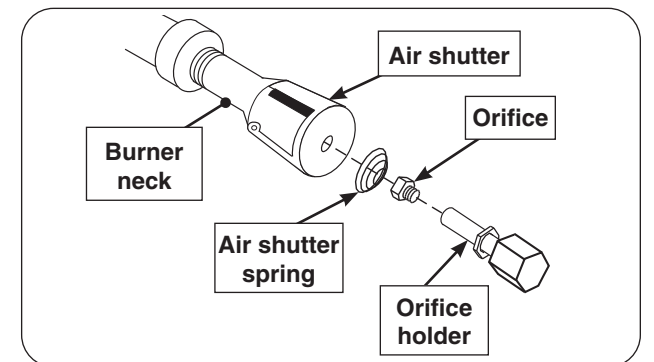

Fig. 32-3 Burner replacement diagram
2. Squeeze the collimator to detach the rear tab from the rear liner as shown in Fig. 32-3, A, and lift up the rear portion of the collimator.
3. Detach the collimator from the front collimator support and completely remove the collimator as shown in Fig. 32-3, B.
4. To re-install, position the air shutter spring and air shutter over the orifice holder fitting, between the burner and the heat shield, in the order and position shown in Fig. 32-3. Do for both burner necks.